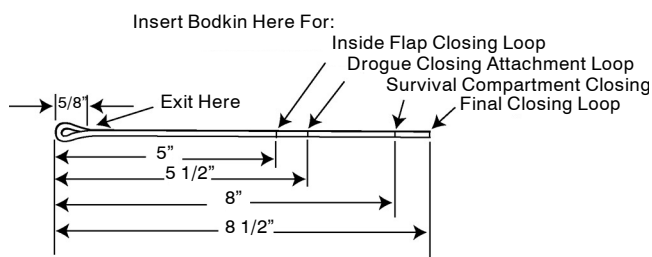

Figure 4. Fabrication of Closing Loops
f. Draw the other end of Spectra back through center of cord. Forming a $5/8 \pm 1/8$ -in. loop (Figure 4).
- f. Draw the other end of Spectra back through center of cord. Forming a $5/8 \pm 1/8$ -in. loop (Figure 4).